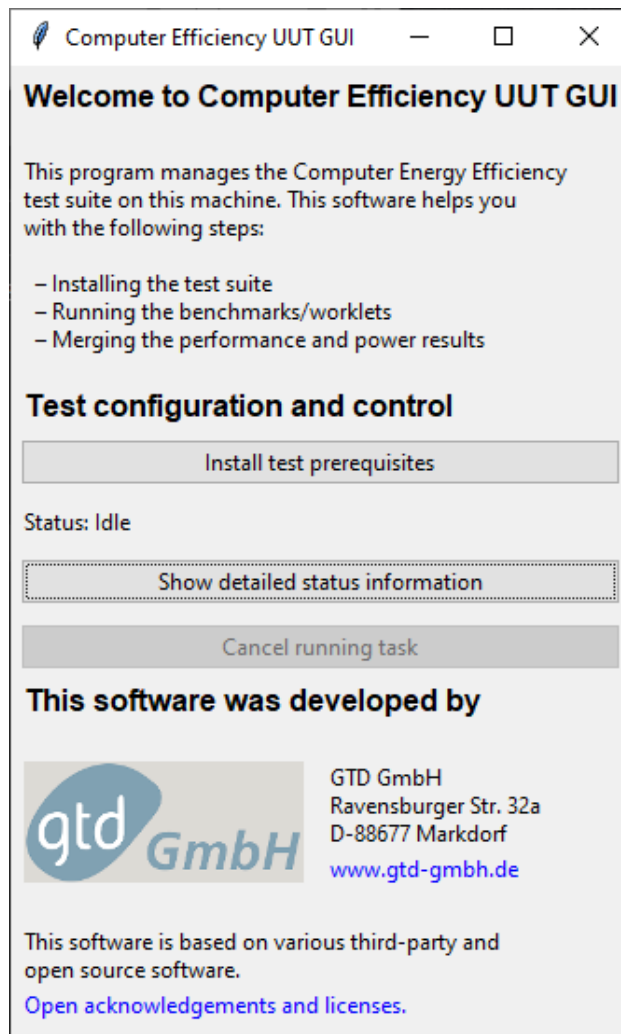

Figure 7.3: Test Suite installation GUI
Figure 7.3 below serves as a reference as this GUI is the same for the 3 proposed OS versions of the software.
- Click “yes” when asked if you want to allow this app to make changes on your computer. The EUT installation GUI is now displayed (see Figure 7.3)
- Double click the `macosx_eut_install` file. The EUT installation GUI pops-up (see Figure 7.3)
- Double click the `linux_eut_install` file. The Test-Suite GUI pops-up (see Figure 7.3). If you get an error message, the reason might be that the USB stick was automatically mounted without execute permissions. In this case do the following steps: